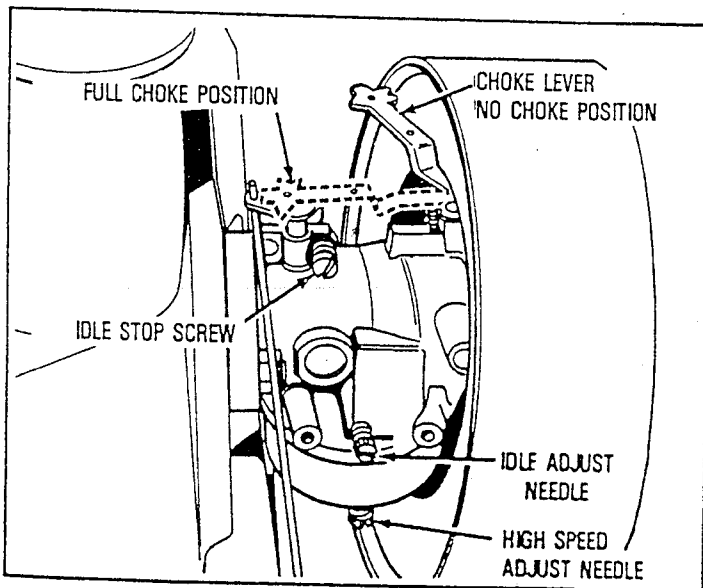

Figure 3
- ① Move CHOKE LEVER on engine (see Figure 3) or remote control on equipment to FULL CHOKE POSITION.
- ② Move remote control on equipment to START position (see equipment manufacturer's instructions).
- ③ **START ENGINE** — Proceed with the following instruction: A. ELECTRIC STARTER, B. ROPE STARTER or C. REWIND STARTER depending on type of starter.